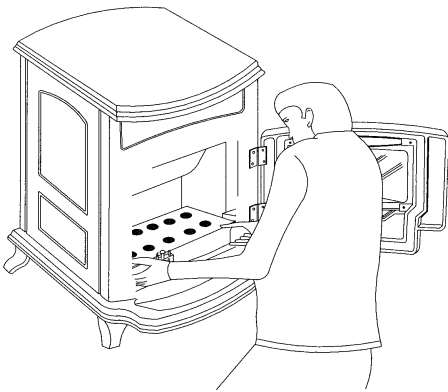

Fig.35
7. Carefully lift up the burner assembly starting with the left side and gradually turning the assembly anti-clockwise until the left side of the assembly is facing towards the door opening. (See Fig.35, 36, 37).
With the complete burner assembly removed as per Fig. 35, 36, 37.